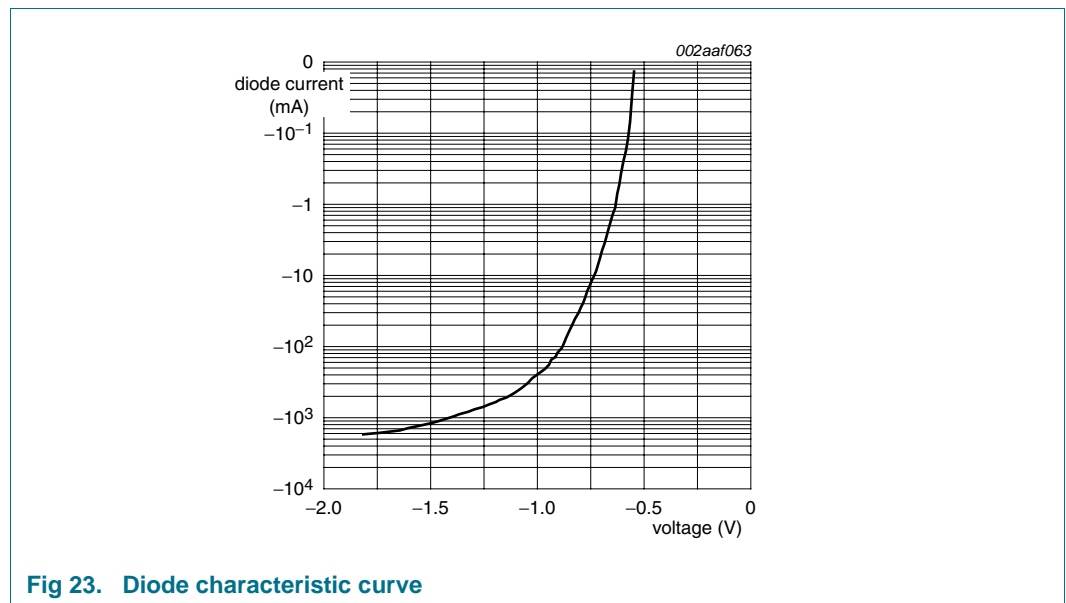

Fig 23. Diode characteristic curve
Figure 23 shows the measured characteristic for one of those diodes inside PCA9601. The plot was made using a curve tracer that applies 50 Hz mains voltage via a series resistor, so the pulse durations are long duration (several milliseconds) and are reaching peaks of over 2 A when more than -1.5 V is applied. The IC becomes very hot during this
For the PCA9601, in specific applications, there will always be transient overshoot and ringing on the wiring that can cause these diodes to conduct. Therefore we designed the IC to withstand those transients and as a part of the qualification procedure we made tests, using DC currents to more than twice the normal bus sink currents, to be sure that the IC was not affected by those currents. For example, the TX/TY and RX/RX pins were tested to at least -80 mA which, from Figure 23, would be more than -0.8 V. The correct functioning of the PCA9601 is not affected even by those large currents. The Absolute Maximum (DC) ratings are not intended to apply to transients but to steady state conditions. This explains why you will never see any problems in practice even if, during transients, more than -0.3 V is applied to the bus interface pins of PCA9601.
Figure 23 "Diode characteristic curve" also explains how the general Absolute Maximum DC specification was selected. The current at 25 °C is near zero at -0.55 V. The PCA9601 is allowed to operate with +125 °C junction and that would cause this diode voltage to decrease by $100 \times 2 \text{ mV} = 200 \text{ mV}$. So for zero current we need to specify -0.35 V and we publish -0.3 V just to have some extra margin.